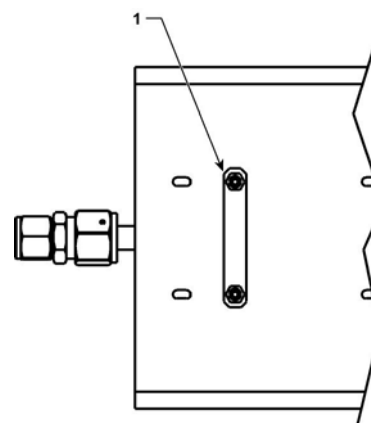

Figure 2. molstic-S Nut Plate
- ❶ Place a new VCR gasket (P/N 102923) securely against the sealing surface inside the female VCR swivel nut at the molstic-S inlet (5).
- ❷ Place the regulator with its bracket on top of the molstic-S platform. Align the male VCR outlet fitting with the mating female VCR swivel nut and thread the nut onto the fitting.
- ❸ Using a backup wrench hold the male VCR union stationary and tighten the VCR swivel nut 1/8 turn past finger-tight.
- ❹ Place the flat side of the 60 mm nut plate under the molstic-S platform (Fig. 2,1). Align it with the holes in the platform and the regulator bracket. Hold it in place.